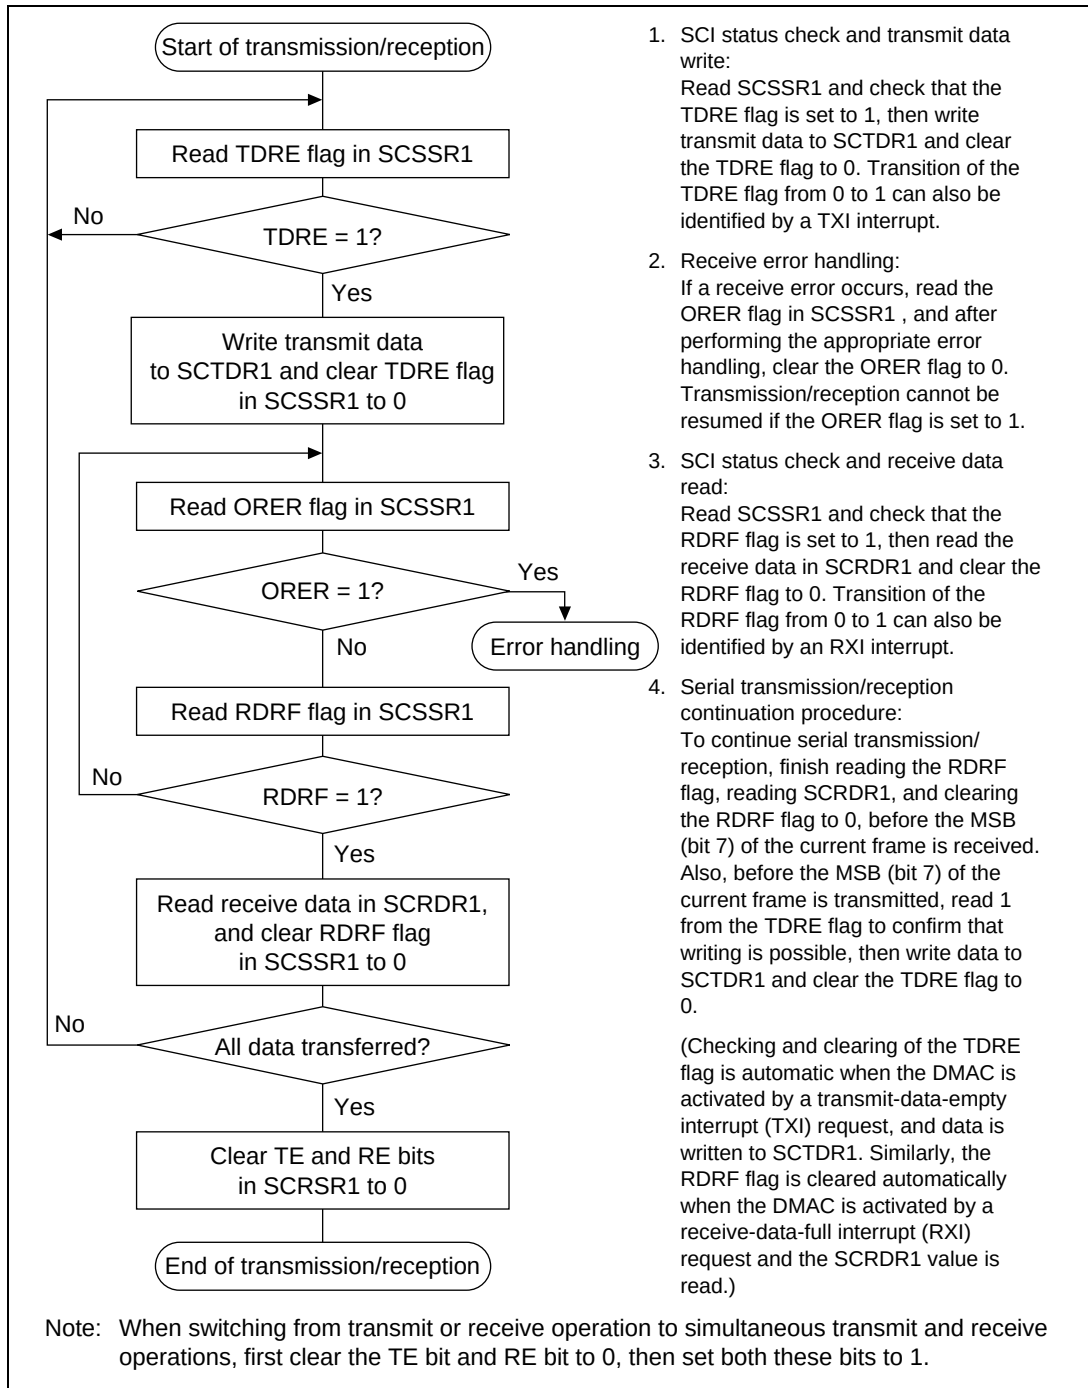

**Figure 15.23 Sample Flowchart for Serial Data Transmission and Reception**
**Simultaneous Serial Data Transmission and Reception (Synchronous Mode):** Figure 15.23 shows a sample flowchart for simultaneous serial transmit and receive operations.